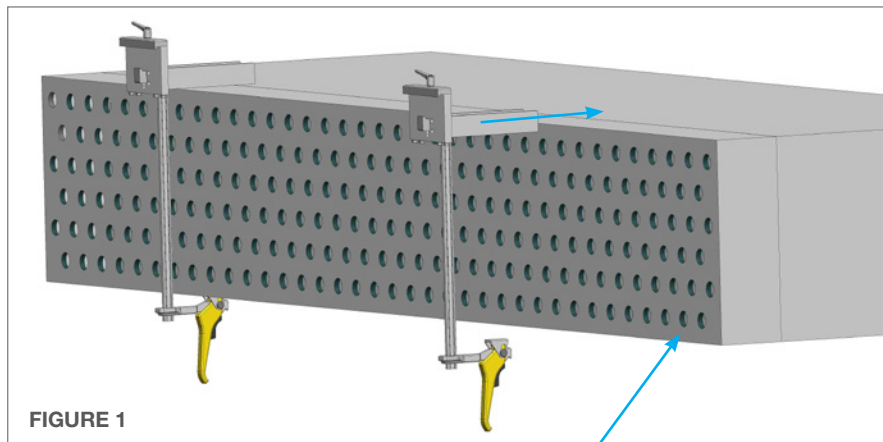

FIGURE 1
1. Mount the **Fin Fan Clamp Assemblies** to the tube bundle as shown. The Clamps should be as square to the bundle as possible. Ratchet the yellow Handle Assembly until tight. **(Figure 1)**